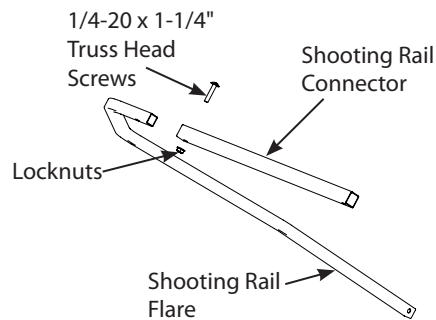

Figure 8
8. Attach shooting rail connector (14161) to one shooting flared rail (14160) using (1) provided 1/4-20 x 1-1/4" truss head screw and locknut. **SEE FIGURE 8.**